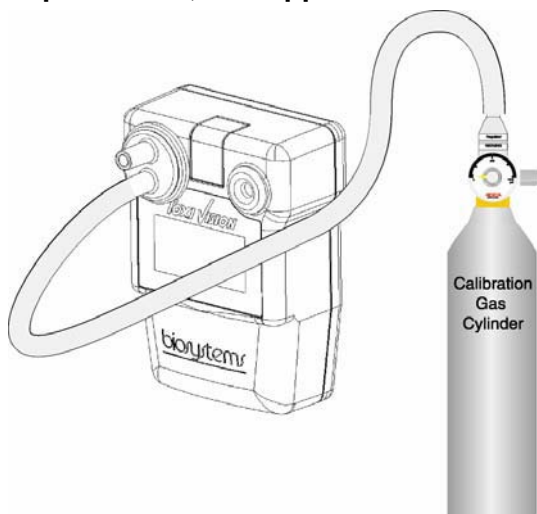

Figure 3.4: Proper bump-test/span calibration set-up for toxic sensor-equipped instruments.
4. Apply the calibration gas as shown below in figure 3.4. (toxic sensor units only)
2. Apply calibration gas as shown above in figure 3.4. Once calibration gas is detected, the readout will change to show the gas reading.